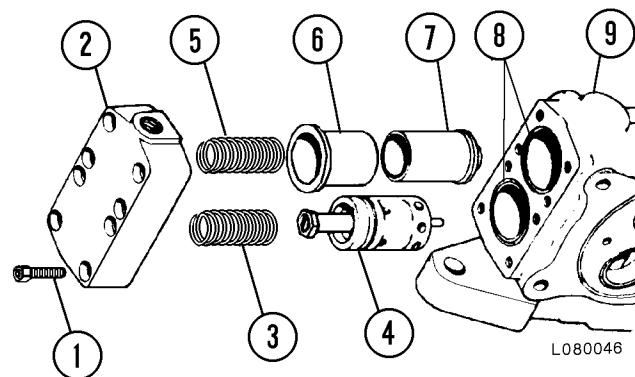

FIGURE 10-5. INLET SECTION
- d. Disconnect tube from inlet section cover (2, Figure 10-5).
- e. Remove capscrews (1) from cover (2). Remove cover and spring (3) from relief valve.
- f. Loosen jam nut on relief valve (4) and turn screw "in" (clockwise) to increase pressure or "out" (counter-clockwise) to decrease pressure.
- g. Install spring (3) and cover (2) with new O-rings (8). Install and tighten capscrews (1). Install tube to cover fitting.